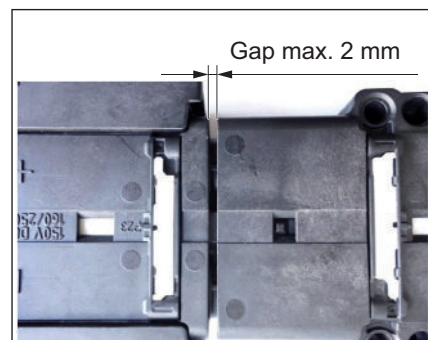

Fig. 42: Permissible gap between the collar of the pin housing and the socket housing
- ▶ Can the two halves of the connection not be completely plugged by hand (refer to **"Fig. 42: Permissible gap between the collar of the pin housing and the socket housing"**)?